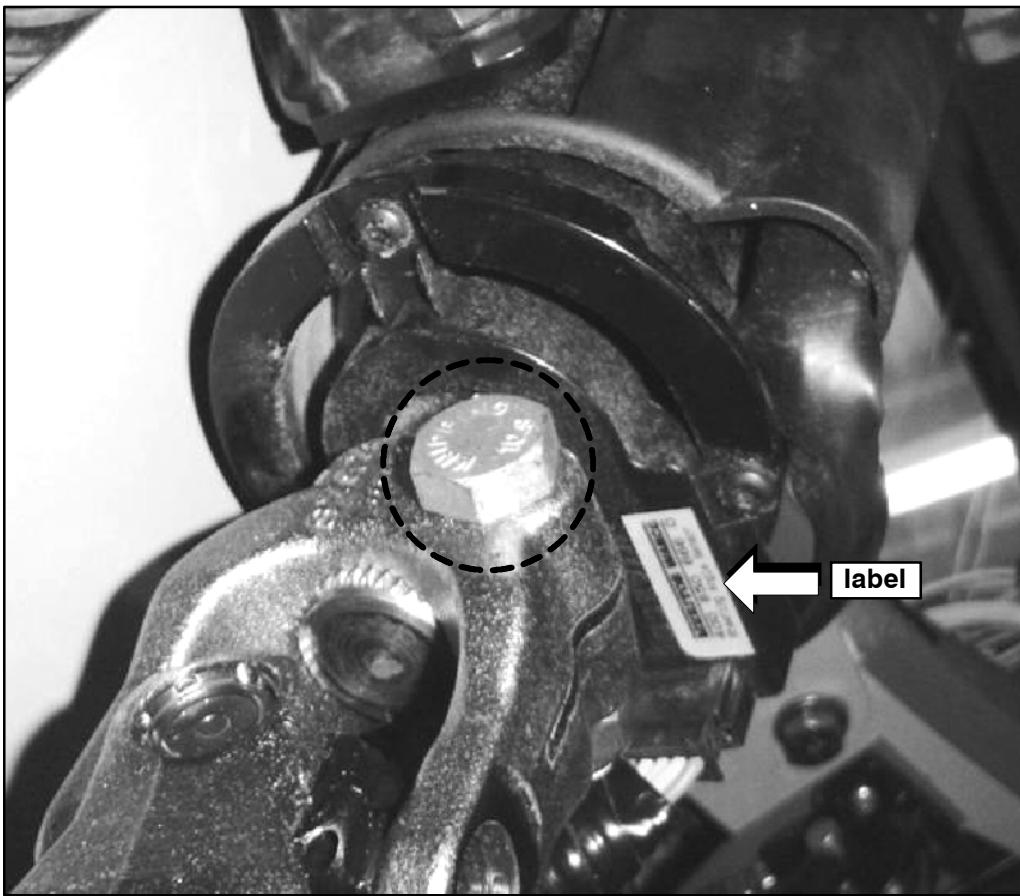

Figure 2.
4. Locate the steering angle sensor serial number label (refer to Figure 2).
7. Locate and remove the clamp bolt and nut that secures the universal joint yoke to the steering column shaft (refer to Figure 2).